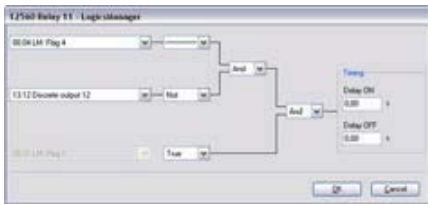

Fig. 190: LogicsManager function "Relay 11"
1. ➔ Configure the LogicsManager function "Relay 11" as shown in (Fig. 190).